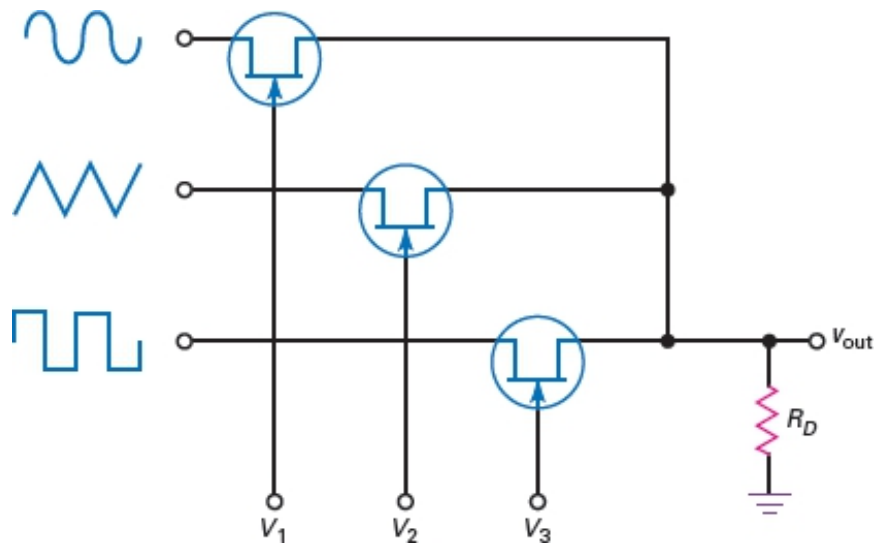

Figure-19 Multiplexer
- Multiplex means “many into one.” Figure-19 shows an analog multiplexer, a circuit that steers one or more of the input signals to the output line.